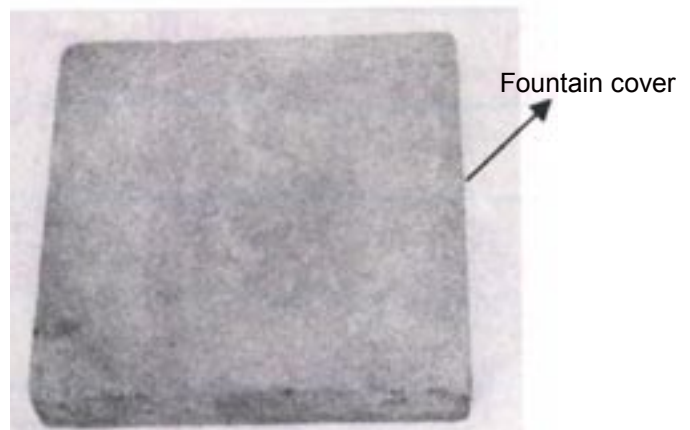

Figure 4
5. Place fountain cover (fig. 4) in top of tower.